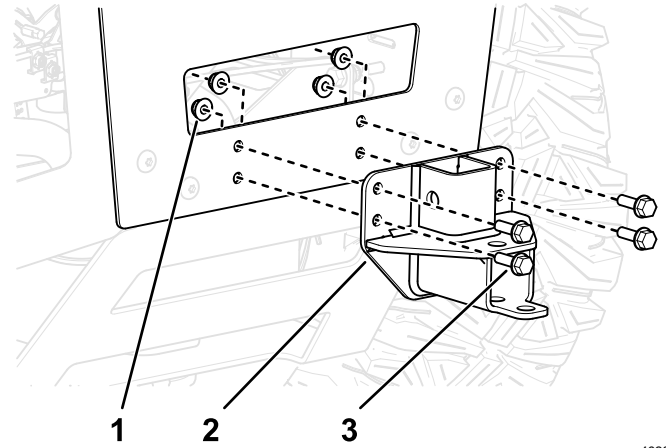

Figure 7
- 4. Install the bagger mount bracket to the machine as shown in Figure 7.